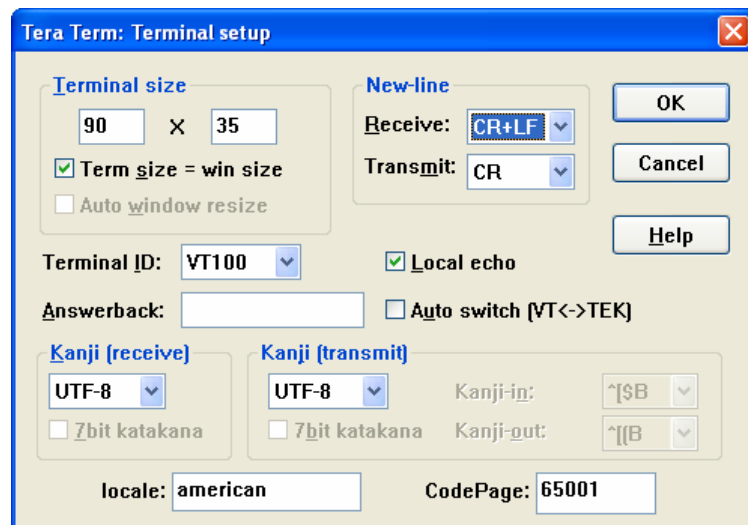

Figure 6-28: Terminal Setup Screen
22. Select these terminal properties, then click **OK** (Figure 6-28).